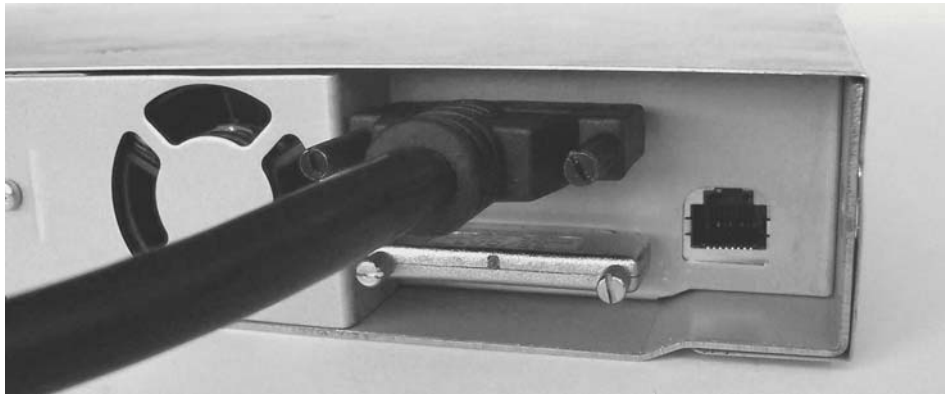

Figure 3.10 SCSI cable and SCSI terminator connection
- D) Before the FastStor 1 is powered on and the system is restarted, make sure the SCSI bus is properly terminated. If the FastStor 1 terminates the SCSI bus, ADIC recommends connecting the terminator from the accessory kit box on the lower SCSI connector on the back plane. See Figure 3.10.
- 1. On the rear of the FastStor 1, attach the device connector of the SCSI cable to the upper SCSI connector. See Figure 3.10.
1. Insert one end of the cable into the FastStor 1 Ethernet port. Push until it snaps into place. The open port in Figure 3.10 is for Ethernet connection.